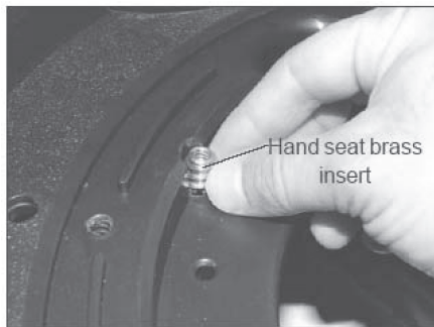

Figure 4.
- H. Hand seat the  $\frac{1}{4}$ -20 brass inserts (larger inserts) into the identified holes in the systems base. See Figure 4.